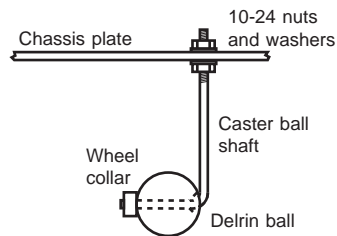

Figure 4.9: Caster wheel assembly.
- Place the 1-inch diameter delrin ball onto the caster shaft as shown in the drawing of Figure 4.9. Use the wheel collar to hold the ball in place. Tighten down the set screw in the wheel collar using the Allen key provided. Make sure that the ball can rotate freely on the shaft.